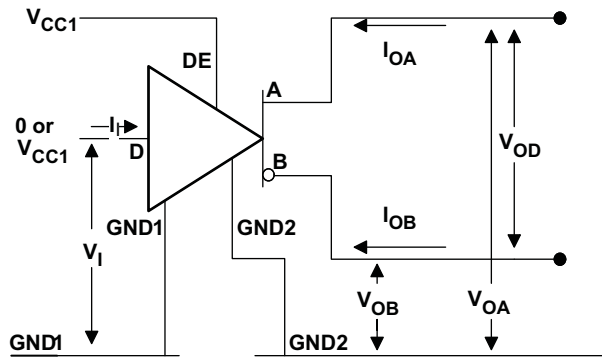

Figure 1. Driver  $V_{OD}$  Test and Current Definitions
**NOTE:** Driver output pins are A and B for the ISO15 (See Figure 1 through Figure 4). These correspond to ISO35 pins Y and Z